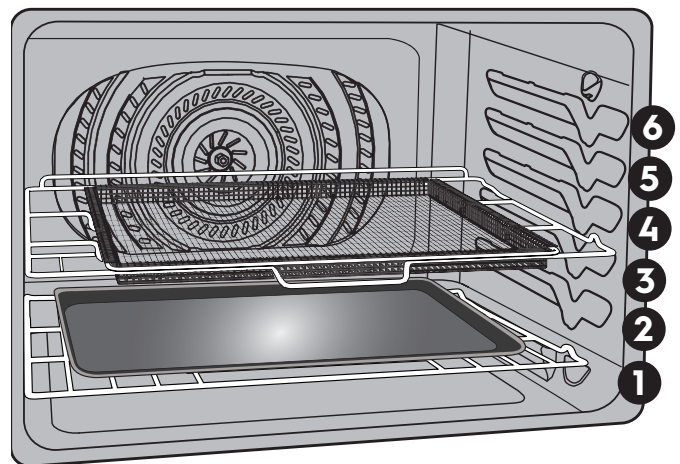

Figure 4: Air Fry Tray
- For baking cakes use the following rack positions and place bakeware as shown in Figure 4. In upper rack use position 5 (glide) or 6 (flat).